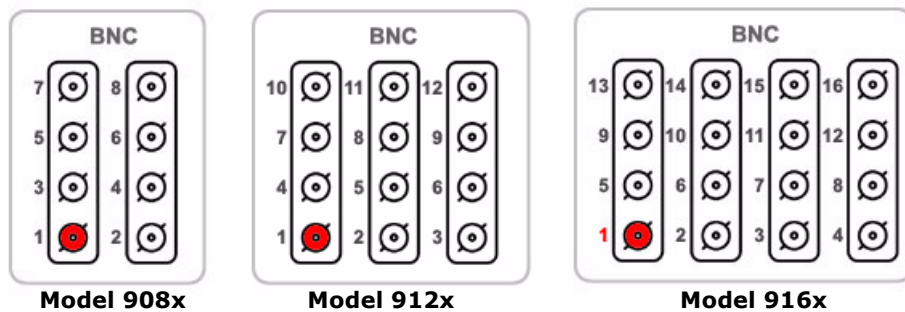

Figure 6. Video Inputs Diagram for Tempest 9000 Series
- **Video Inputs** - The Video Inputs panel consists of BNC connectors for 8/12/16 video inputs (See Figure 6) from cameras (NTSC/PAL) or other sources (CCTV cameras, tuners, VCRs, etc.).